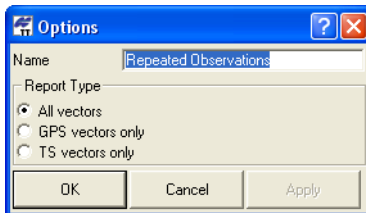

Figure 7-20. Item Options – Repeated Observations
- Repeated Observations – edit the name and select the report type for vectors, then click **OK** (Figure 7-20).